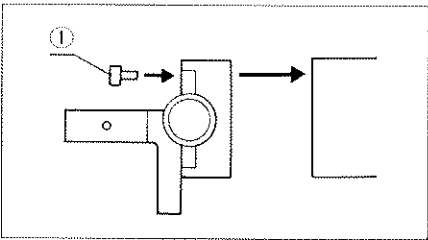

Fig. 3
(1) Securely attach the arm to the equipment using the three hexagon bolts ① (Fig. 3).